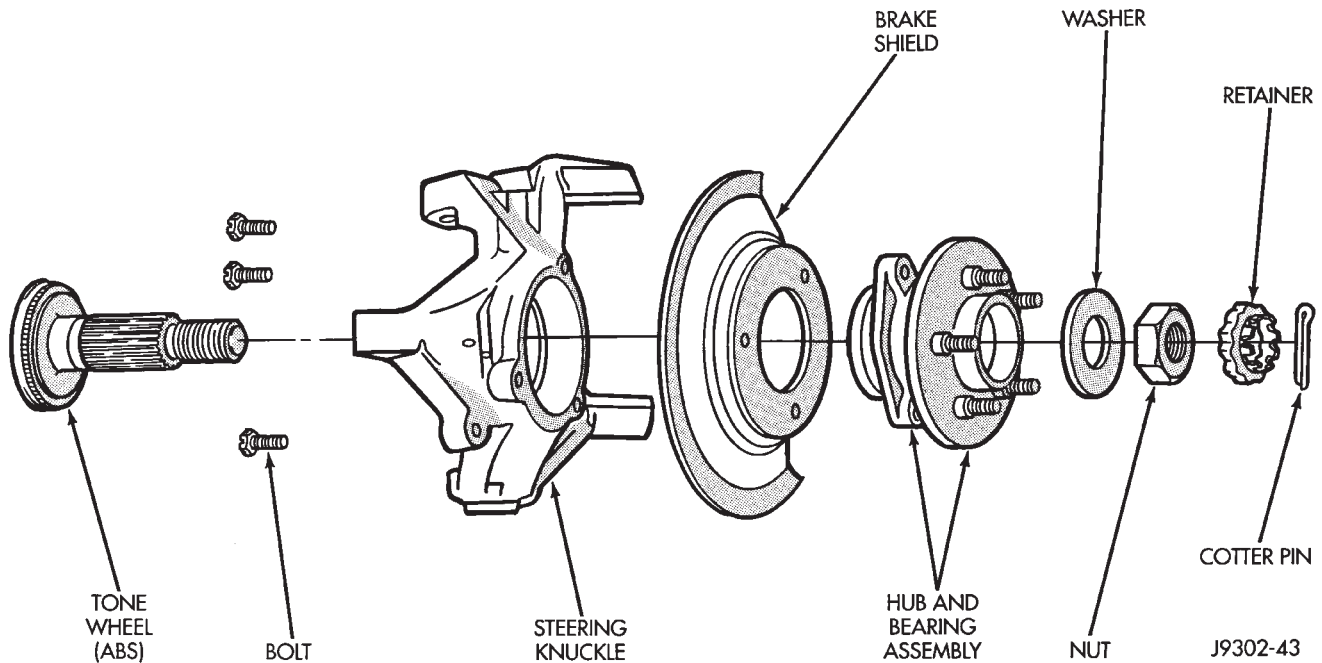

Fig. 9 Hub Bearing & Knuckle
(1) Raise and support the vehicle.
(2) Remove the wheel and tire assembly.
(3) Remove the brake components from the axle, refer to Group 5 Brakes.
(4) Remove the cotter pin, nut retainer and axle hub nut (Fig. 9).